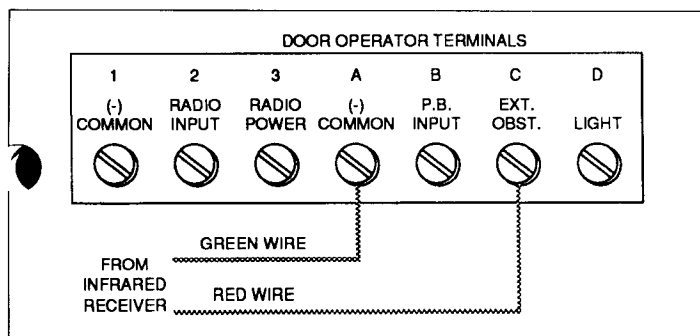

Figure 25
**Step 47:** Run the two-conductor "DoorSentry" wire from the detector up the side of the door opening and over to the channel. Run the wire across the top of the channel to the operator terminals marked "Common and Obstacle" - (see Figure 25). Attach the three (3) wire ties provided to each end and the center of the top side of the channel assembly. Slide wire into wire clip to hold wire away from any moving parts of channel or door.